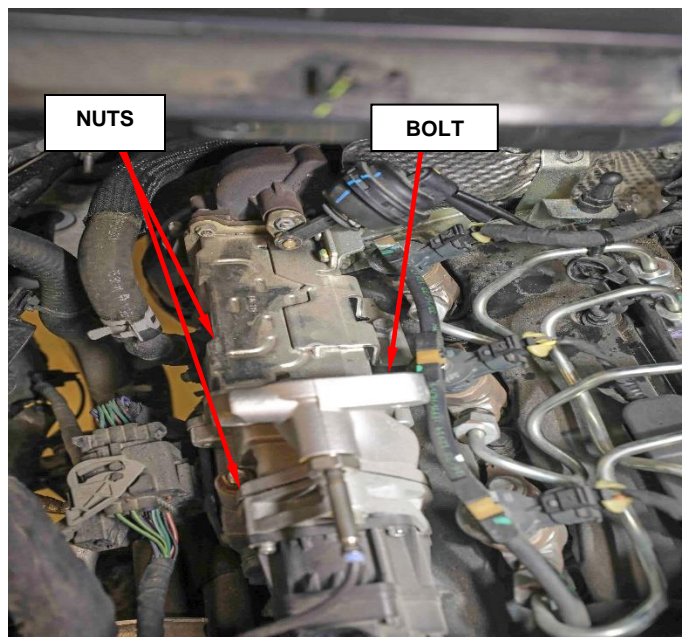

Figure 41 – EGR Mounting
17. Remove the two nuts and bolt and the EGR cooler assembly (Figure 41).